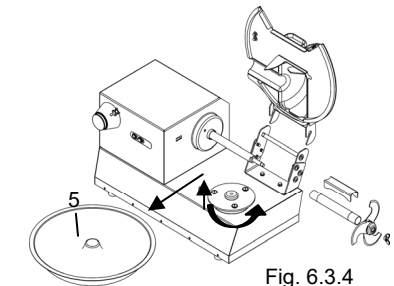

Fig. 6.3.4
- Lift and remove the tank Fig. 6.3.4.